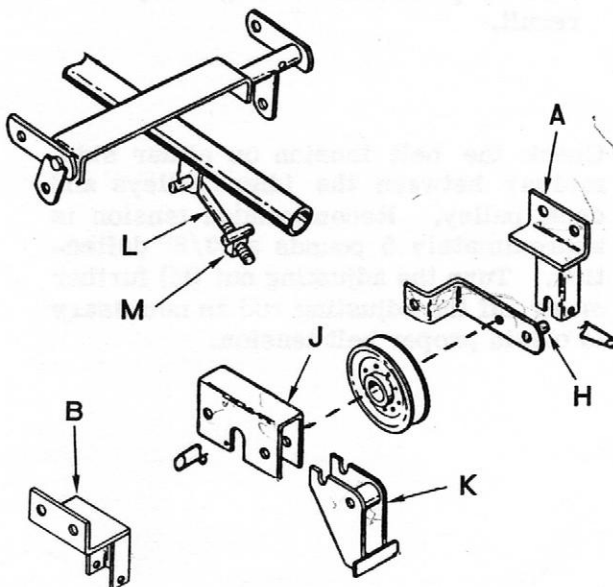

Figure 5. Idler Pulley Assembly and Adjustment
8. Remove the safety pins from the front hanger brackets (A and B, Figure 5) and raise the idler pulley assembly up by pulling back on the tractor lift lever until the pins (H) in the idler pulley support brackets engage in the slots of the hanger brackets. Replace the safety pins and tighten the four carriage bolt nuts on the hanger brackets (A and B).
9. Remove the safety pin from the tensioner housing (J, Figure 5) and pull up on the tensioner lever (K) to release the adjusting rod (L) and nut (M).